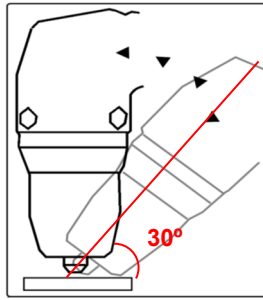

Fig. 3
- Should you need to make holes or begin cutting from the centre of the work piece, you must hold the torch at an angle (30°), and slowly straighten it so that the nozzle does not spray molten metal. This must be done when making holes in pieces more than 3 mm thick. See figure 3.